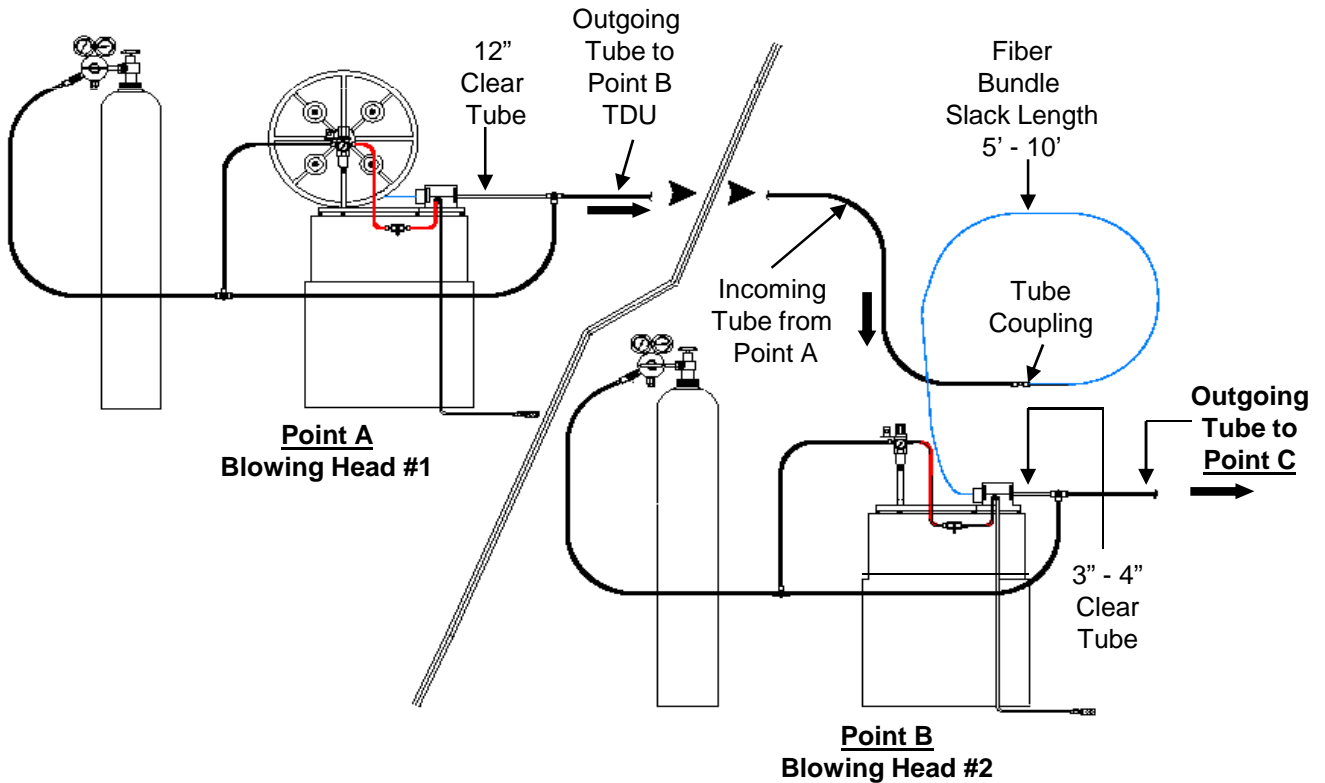

Figure 2
5.1 See Fig. 2 for a typical Tandem Blowing Equipment layout.